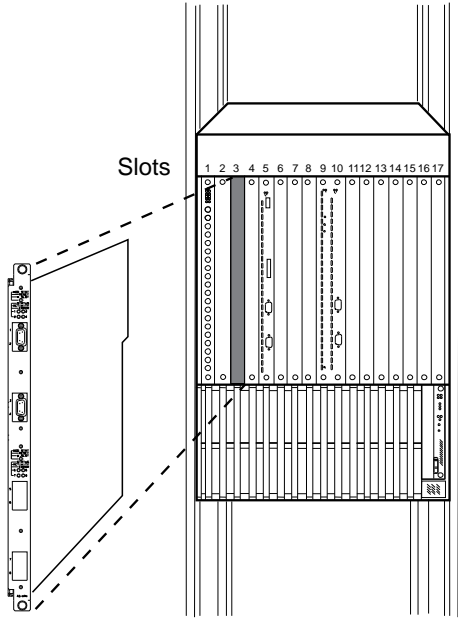
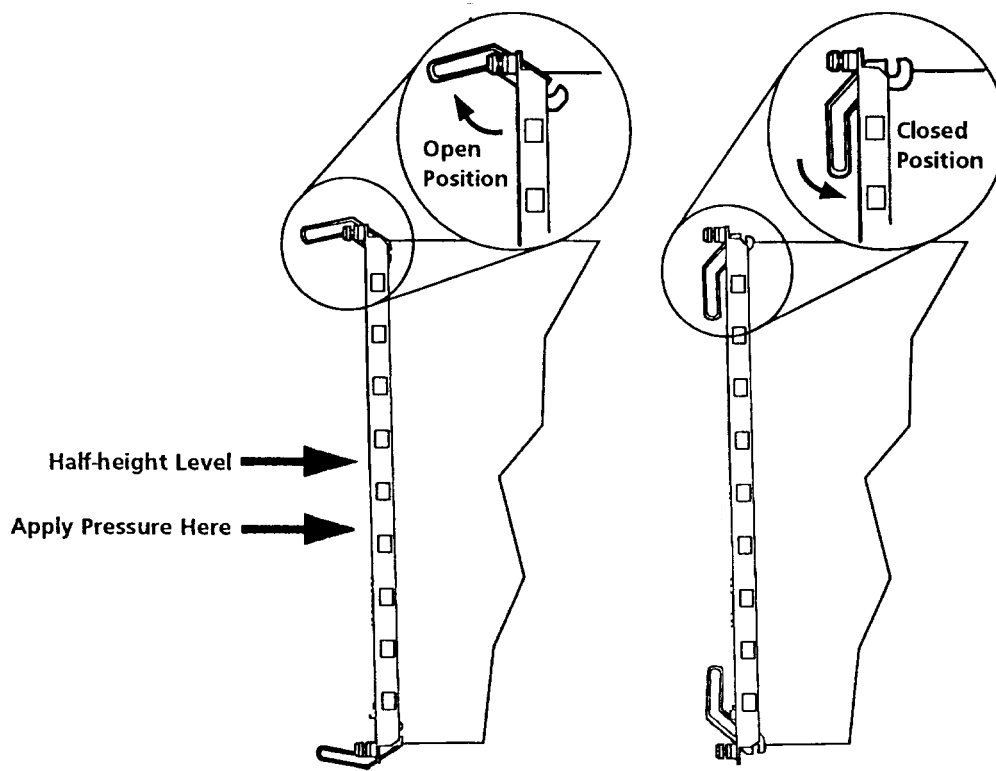

Figure 1. Inserting the Module in an 8265 ATM Switch
Figure 2. 8265 ATM Switch Module Ejectors
- 3** Insert the module into the slot as shown in Figure 1, matching the top and bottom board guides as you slide the module cleanly into place (by pressing evenly on the top and bottom of the faceplate). Do not attempt to push the module all the way into the 8265 switch until you have verified that the top and bottom module ejectors are OPEN (see Figure 2 on page 7.)